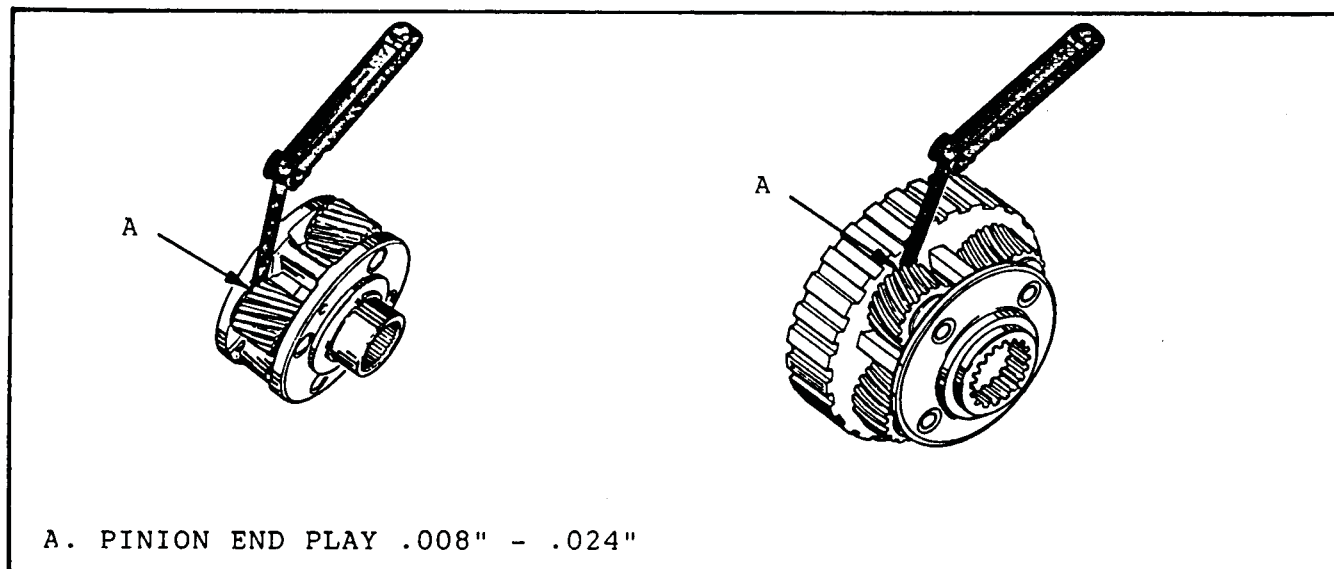

Figure 84
- Reaction carrier assembly for pinion gear damage, proper pinion pin staking, stripped splines, peening on the clutch lugs, and for excessive pinion washer wear. Pinion end play should be between .008"-.024" (See Figure 84).